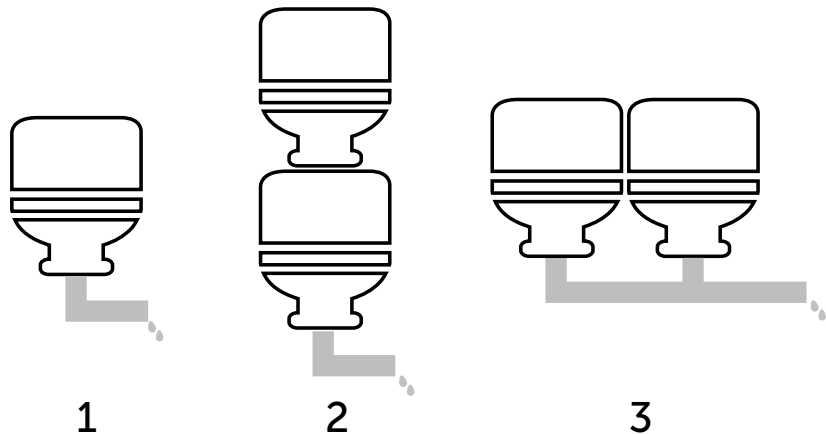

FIGURE 5.3: Water in a storage tank pushing water through a pipe
You can think of voltage as the pressure that pushes an electric current through a wire. Take a look at Figure 5.3. In our water analogy, the voltage is the pressure, due to earth's gravity, of the water in the storage tank pushing water through the pipe (1). If you double the amount of pressure by doubling the amount of water in the tank (2), this is like connecting two of the same batteries in a series—the voltage will double. But if you set up two storage tanks in parallel (3), the pressure remains the same, but the amount of water flowing through the pipe doubles. In this case the voltage is the same, but the current doubles. Voltage is measured in volts.